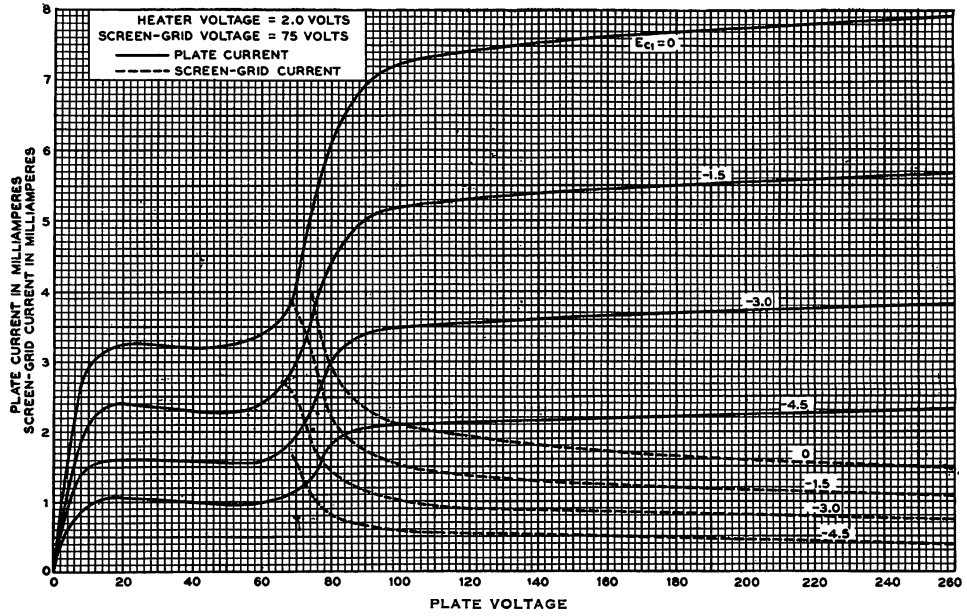
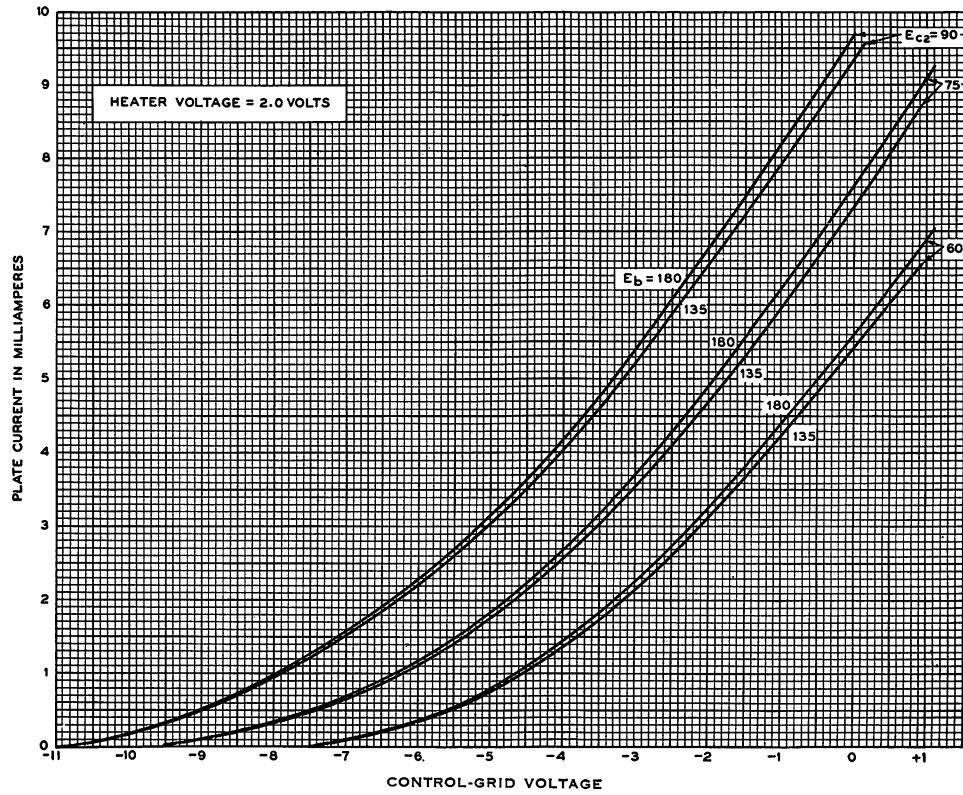
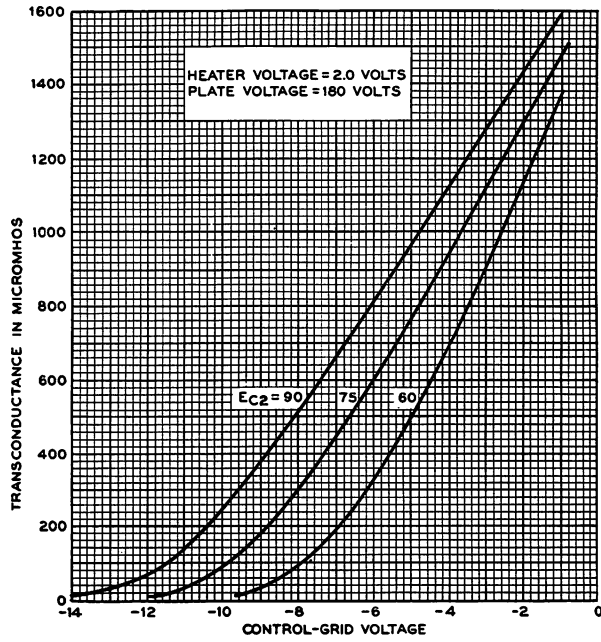
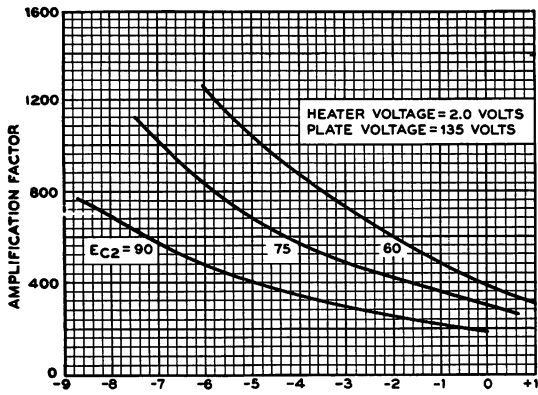

FIG. 3
FIG. 5
FIG. 7
FIG. 8
**Characteristics**—Plate-current and screen-grid current characteristics of a typical 259B tube are given as functions of plate voltage in Figures 3 and 4, for screen-grid voltages of 75 and 90 volts, respectively. The same quantities are shown as functions of control-grid bias in Figures 5 and 6. Transconductance characteristics for a plate voltage of 180 volts are shown in Figure 7. For other plate voltages between 135 and 250 volts, the transconductance of a typical tube, for values higher than 100 micromhos, does not differ by more than  $\pm 3$  per cent from its value at 180 volts. The amplification-factor and plate-resistance characteristics corresponding to Figure 5 are given in Figures 8, 9, 10, and 11.